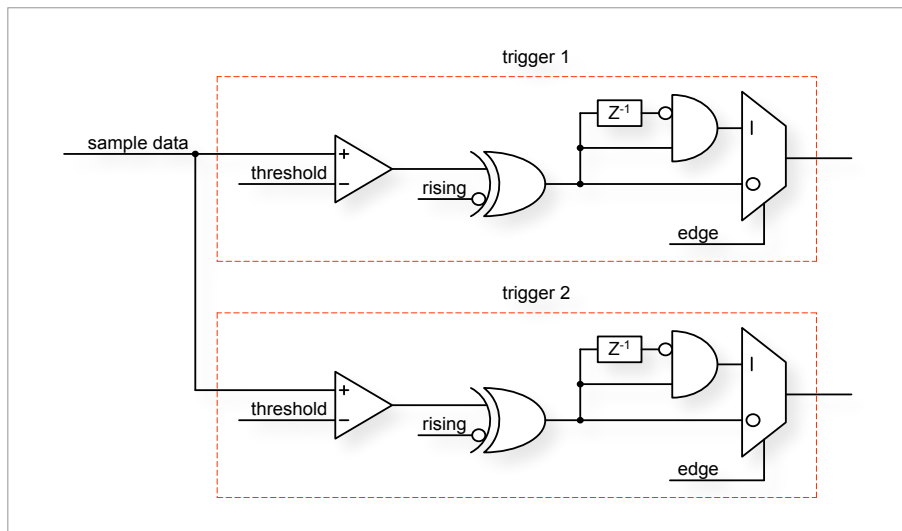

Figure 2.16: From the ADC inputs, a trigger unit creates an input flag for the trigger matrix. Each digitizer channel (A, B, C, D) has two trigger units.
- the 8 trigger decision units of all four ADC channels (Figure 2.16 on page 15)